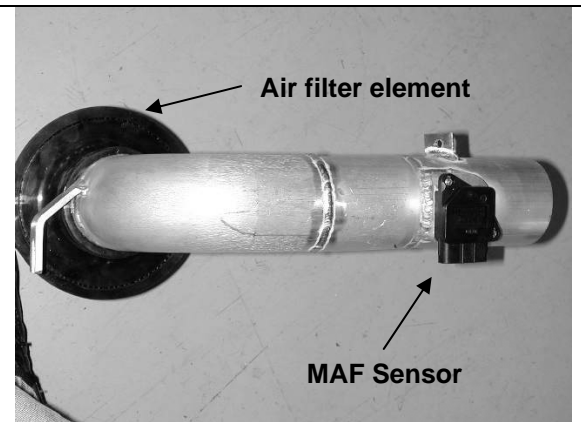

Fig. 10
- g. Install the air filter onto the furthest end of the intake pipe from the MAF sensor. Leave the hose clamp attaching the air filter to the intake pipe loose. (Fig. 10)